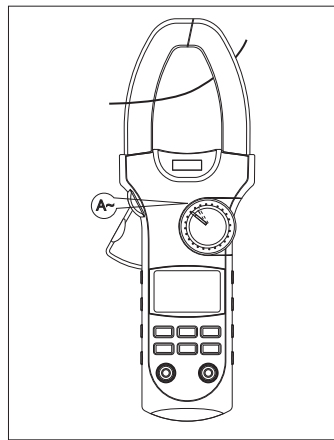

Figure 10
H. AC Current Measurement (see figure 10)